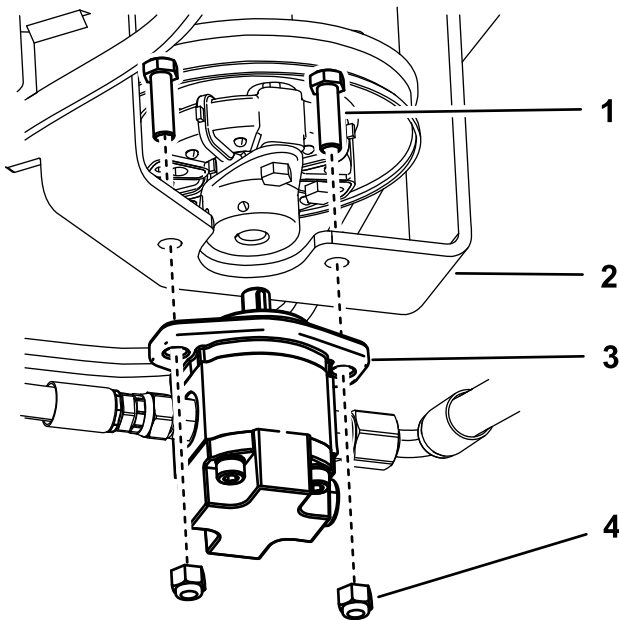

Figure 42
7. Remove the 2 bolts and 2 nuts and loosen the 2 set screws on the coupler. Remove the gear pump from the pump mount (Figure 42).
10. Install the gear pump (Figure 42).